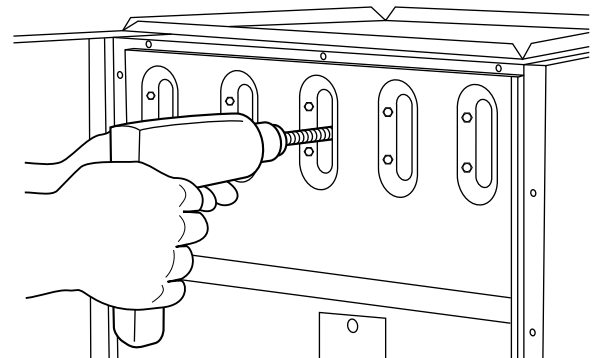

Fig. 53 – Cleaning Heat Exchanger Cell
- (1) Attach variable-speed, reversible drill to the end of spring cable (end opposite brush).
- (2) Insert brush end of cable into the outlet opening of cell and slowly rotate with drill. **DO NOT** force cable. Gradually insert cable into upper pass of cell. (See Fig. 53.)
- (3) Work cable in and out of cell 3 or 4 times to obtain sufficient cleaning. **DO NOT** pull cable with great force. Reverse drill and gradually work cable out.